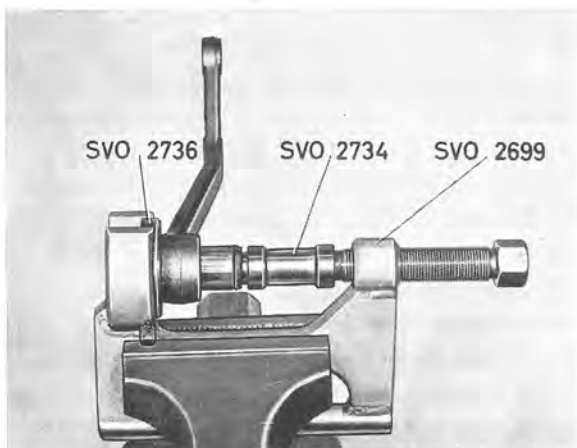

Fig. 6-49. Removing rubber bush, relay arm
4. Set the wheels straight forwards. Fit steering wheel puller SVO 2972 as shown in Fig. 6-49 and pull off the steering wheel.
4. Secure press tool SVO 2699 in a vice and press the bush out with a counterhold SVO 2736 and drift SVO 2734 (see Fig. 6-49).